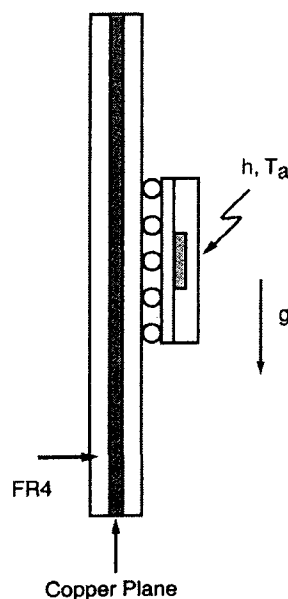

Figure Q4[b]
- [b] A ball grid array (BGA) package with a face area of 4 cm^2 , mounted on a printed wiring board (PWB) as shown in Figure Q4[b], dissipates 1 W. Calculate the BGA surface temperature assuming that the package loses heat by natural convection and radiation and that no heat flows into PWB. Assume that the package surface emissivity is 0.9, the Stefan-Boltzmann constant is $5.67 \times 10^{-8} \text{ W/m}^2\text{K}$ and the ambient temperature is 25°C.